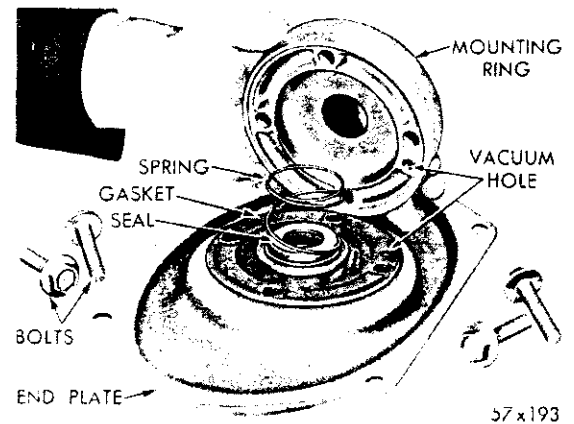

Fig. 58—Removing the Mounting Ring
(11) Remove the bolts that attach the mounting ring to the end plate. Separate the end plate from the mounting ring, and remove the seal retainer spring, piston and rod leather seal and mounting ring gasket, as shown in Figure 58. Remove the vacuum inspection port screw and gasket from the mounting ring.
(12) Remove the screws that hold the retainer plate to the piston plate. Separate the retainer and the piston plate, remove the expander spring, wick,